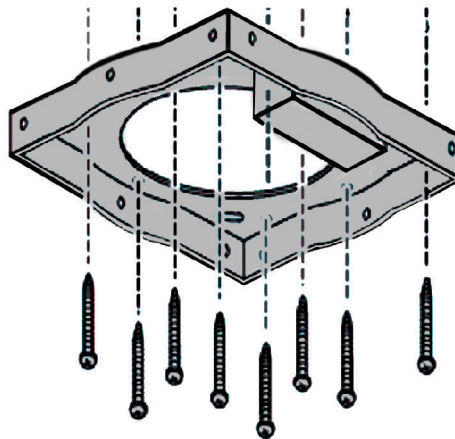

Figure 1
- In line with the hanging board, drill 8 holes in the ceiling (see Figure 1).
- Using appropriate explode screws, attach the hanging board to the ceiling (see Figure 1).